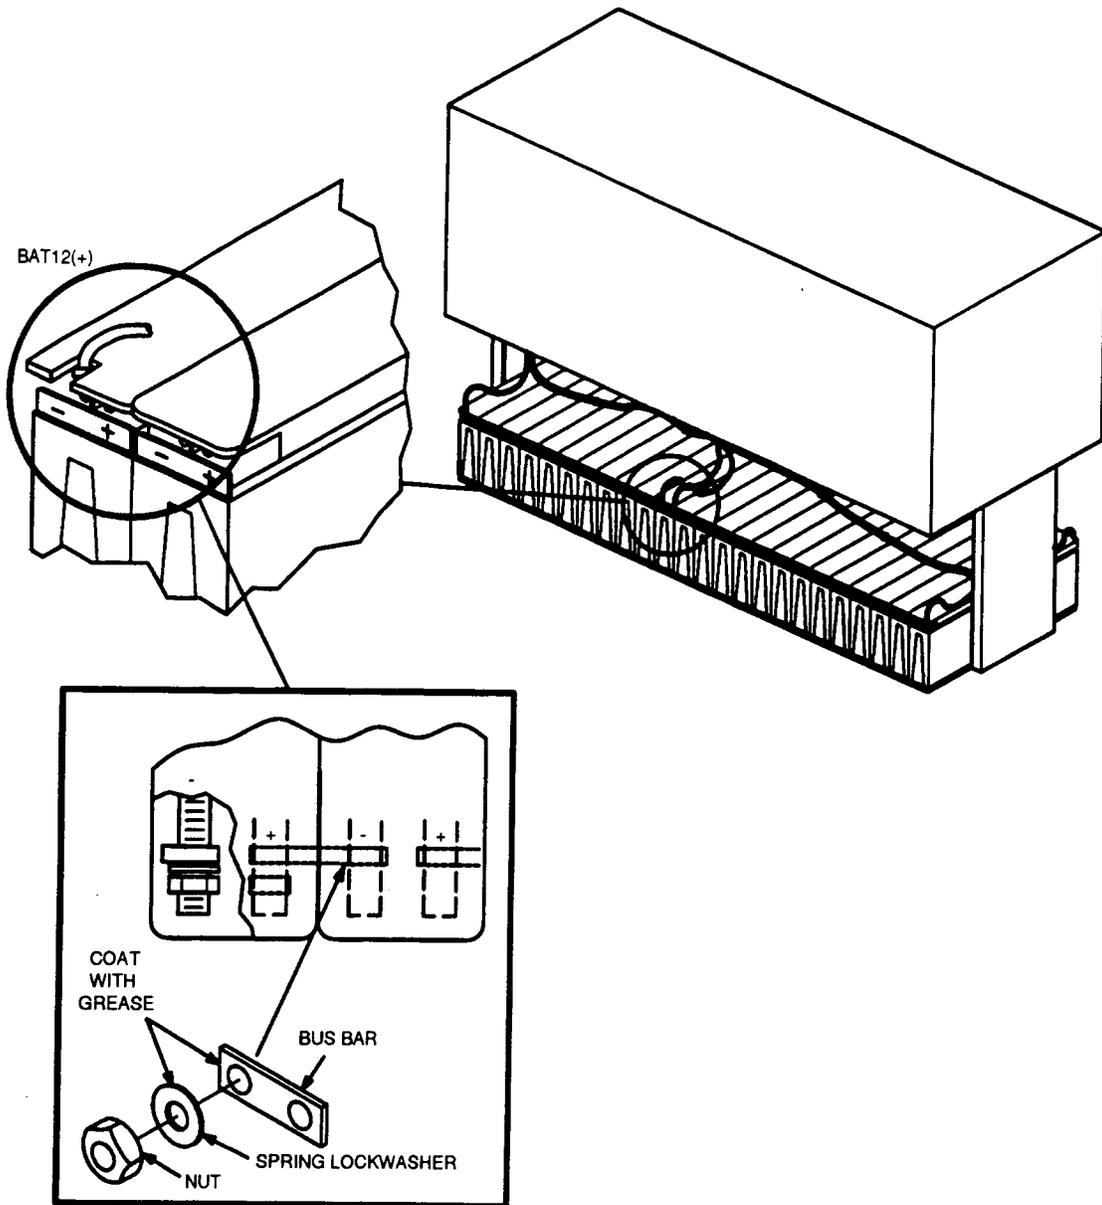

Figure 2 — Battery String Connections for Lineage 2000 VR Series Batteries
**SUMMARY:** Unpack and visually inspect the batteries for damage. Measure the voltage of each battery. Requirement: 4.20 V DC or higher. Place batteries in the battery compartment (Figure 1). Coat interbattery bus bars with NO-OXid grease. Connect the batteries together with the bus bar as shown in Figure 2. Connect battery string cable to batteries 1 and 12. Check the battery string voltage, note polarity and voltage (Requirement: minimum 50.4 V DC). Connect cable from control and distribution panel to battery string cable. Repeat for each battery string to be installed.
9. Coat interbattery bus bars with NO-OXid grease and install on the batteries as shown in Figure 2. Install 1/4-inch lock washer and nut on battery post. Using insulated torque wrench with the socket, tighten nut to 55 inch-pounds torque. Repeat for each battery post until all 12 batteries are connected together.
10. Cut a notch in the cover of the battery No. 1 (above "-" battery post) and battery No. 12 (above "+" battery post) (see Figure 2). This is required to install the battery string cable.
11. Connect the battery string cable to battery No. 1 by terminating the lug marked **BAT 1 (-)** to the "-" (negative) battery post of the first battery in the string (Figure 2). Connect the battery string cable to battery No. 12 by terminating the lug marked **BAT 12 (+)** to the "+" (positive) battery post of the 12th battery as shown in Figure 2. Install the lock washer and nut on the battery posts. Use insulated torque wrench to tighten the nuts to 55 inch-pounds torque.